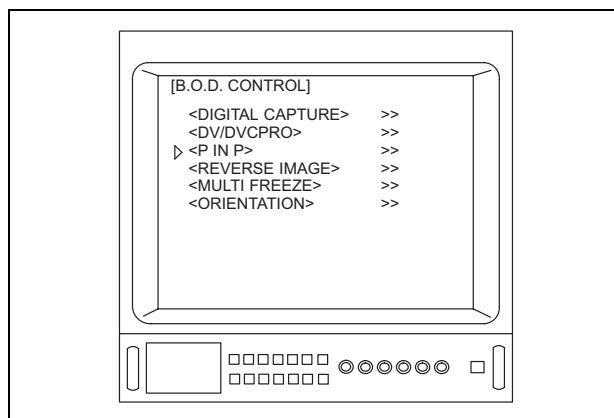

Figure 5.113
4. Depress the menu switches " or ", or the " key on the keyboard to move the arrow " to "P IN P" (see Figure 5.113).
Depending upon B.O.D.s which are installed in the OTV-S7V, the menu shown in Figure 5.113 may appear different from that displayed on the video monitor.
4. Depress the menu switches “” or “”, or the “” key on the keyboard to move the arrow “” to “P IN P” (see Figure 5.113).
5. Depress the menu switches " or ", or the " key on the keyboard to move the arrow " to "P IN P" (see Figure 5.113).